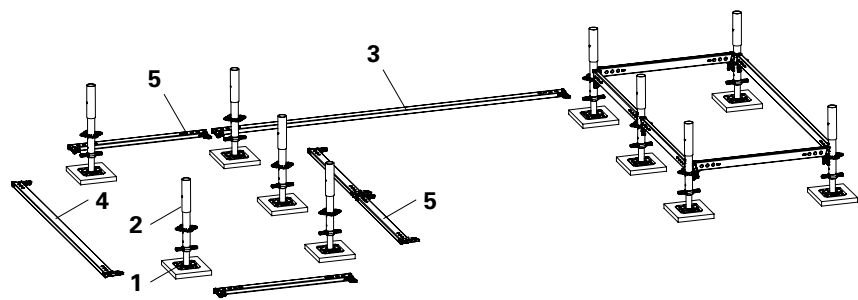
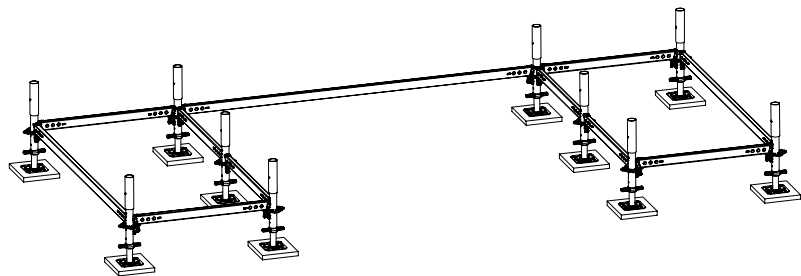

Fig. A1.03
Fig. A1.04
5. Connect the base standards to the horizontal ledgers. Do not hammer the wedges in yet. (Fig. A1.03 + Fig. A1.04)